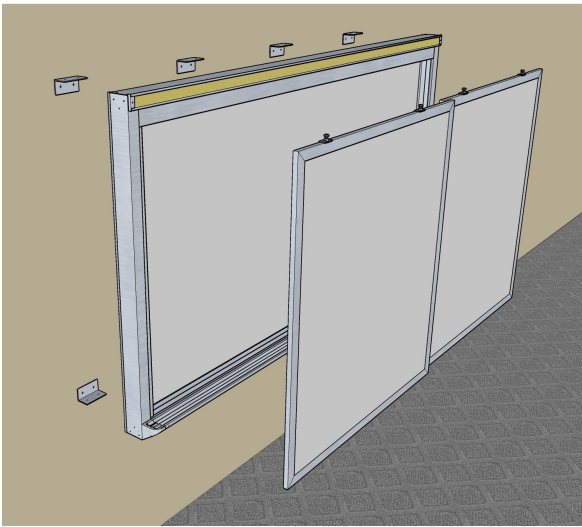

Figure 7.
6. The inside dimension of the mounting clips to equal unit height. Plan for one mounting clip near each end of the unit and less than three feet apart in between. Attach mounting Brackets LEVEL at desired elevation using chalk line & level as shown in Figure 7. (Be sure to use the proper mounting equipment for your wall composition to adequately secure the unit)